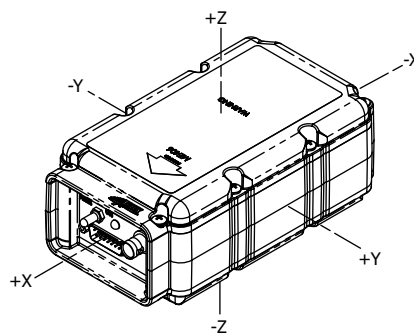

Figure 1 ELT Orthogonal Axes
- (1) The ME406HM ELT is designed for helicopter installations and features a 5-axis G-Switch module in addition to the primary G-switch, which is oriented to line-of-flight. This design allows the ELT to be activated in all six axes. See Figure 1 ELT Orthogonal Axes.
- (2) The ME406HM is identical to the ME406 in all other aspects.